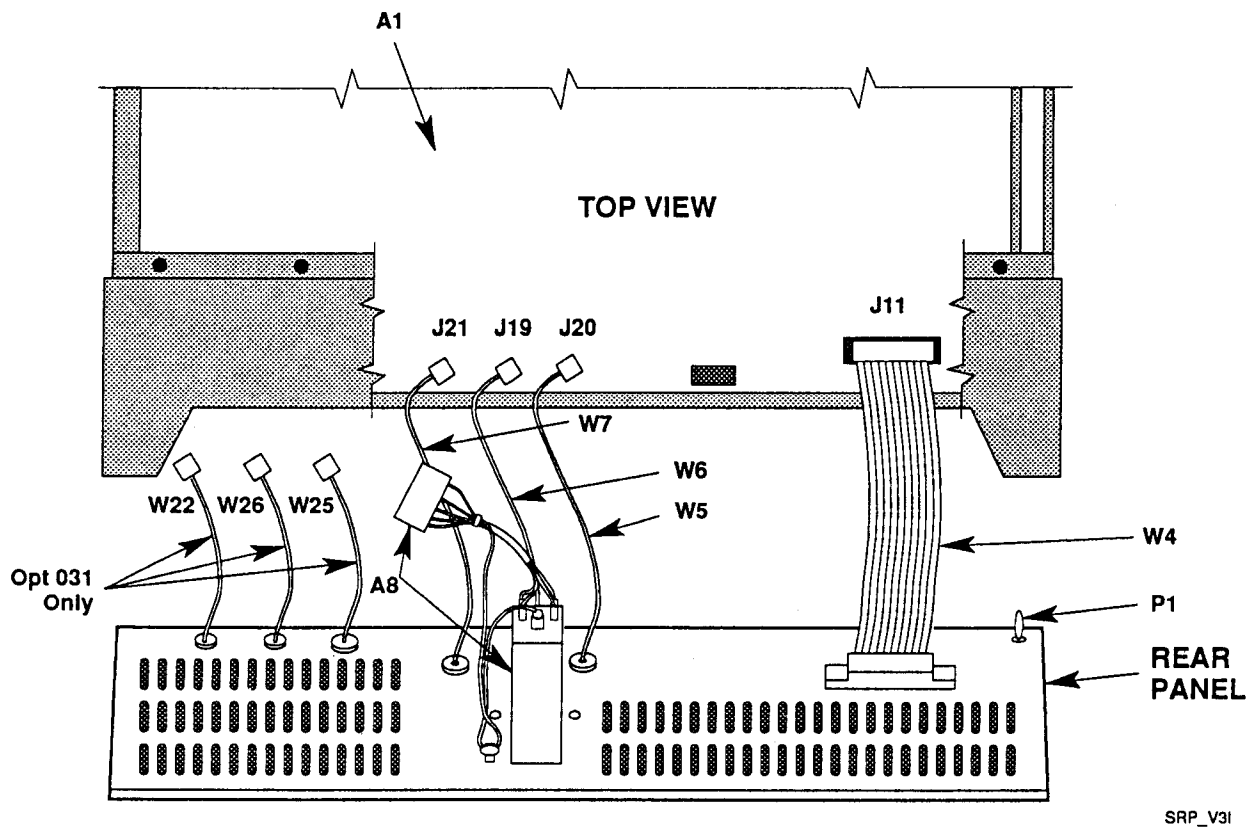

Figure 5-1. Standard Rear Panel Replacement
Figures 5-1 and 5-2 are provided to complement the removal and replacement procedures for the Standard and Option 010 rear panel assemblies. Refer to the exploded views, Figures 8-1 and 8-2, in Chapter 8 (Replaceable Parts) when performing the removal and replacement procedures for the other assemblies.
- 5 Pull the rear panel about three inches away from the instrument. (See *Figure 5-1*.)